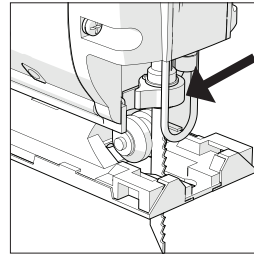

Fig 1
1. INSTALLING OR REMOVING A BLADE (Fig. 1)
- Rotate the chuck locking collar forward and slide the jigsaw blade fully 'home' into the chuck. Ensure that the 'T' bar of the bayonet fitting is fully engaged within the chuck. (Fig. 1)